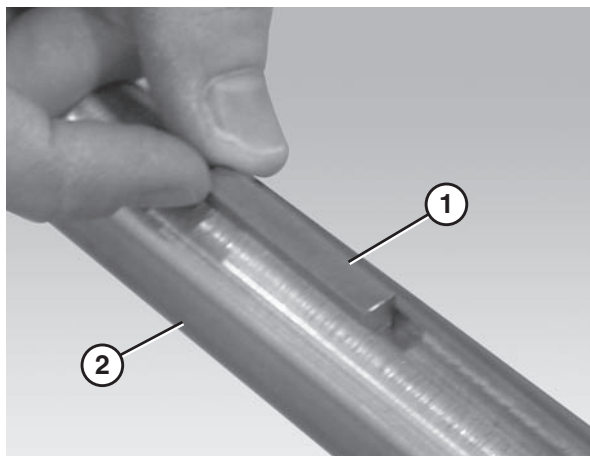

Figure 3
1. Insert the drive spindle key (**Figure 3, item 1**) into the drive spindle keyway (**Figure 3, item 2**).